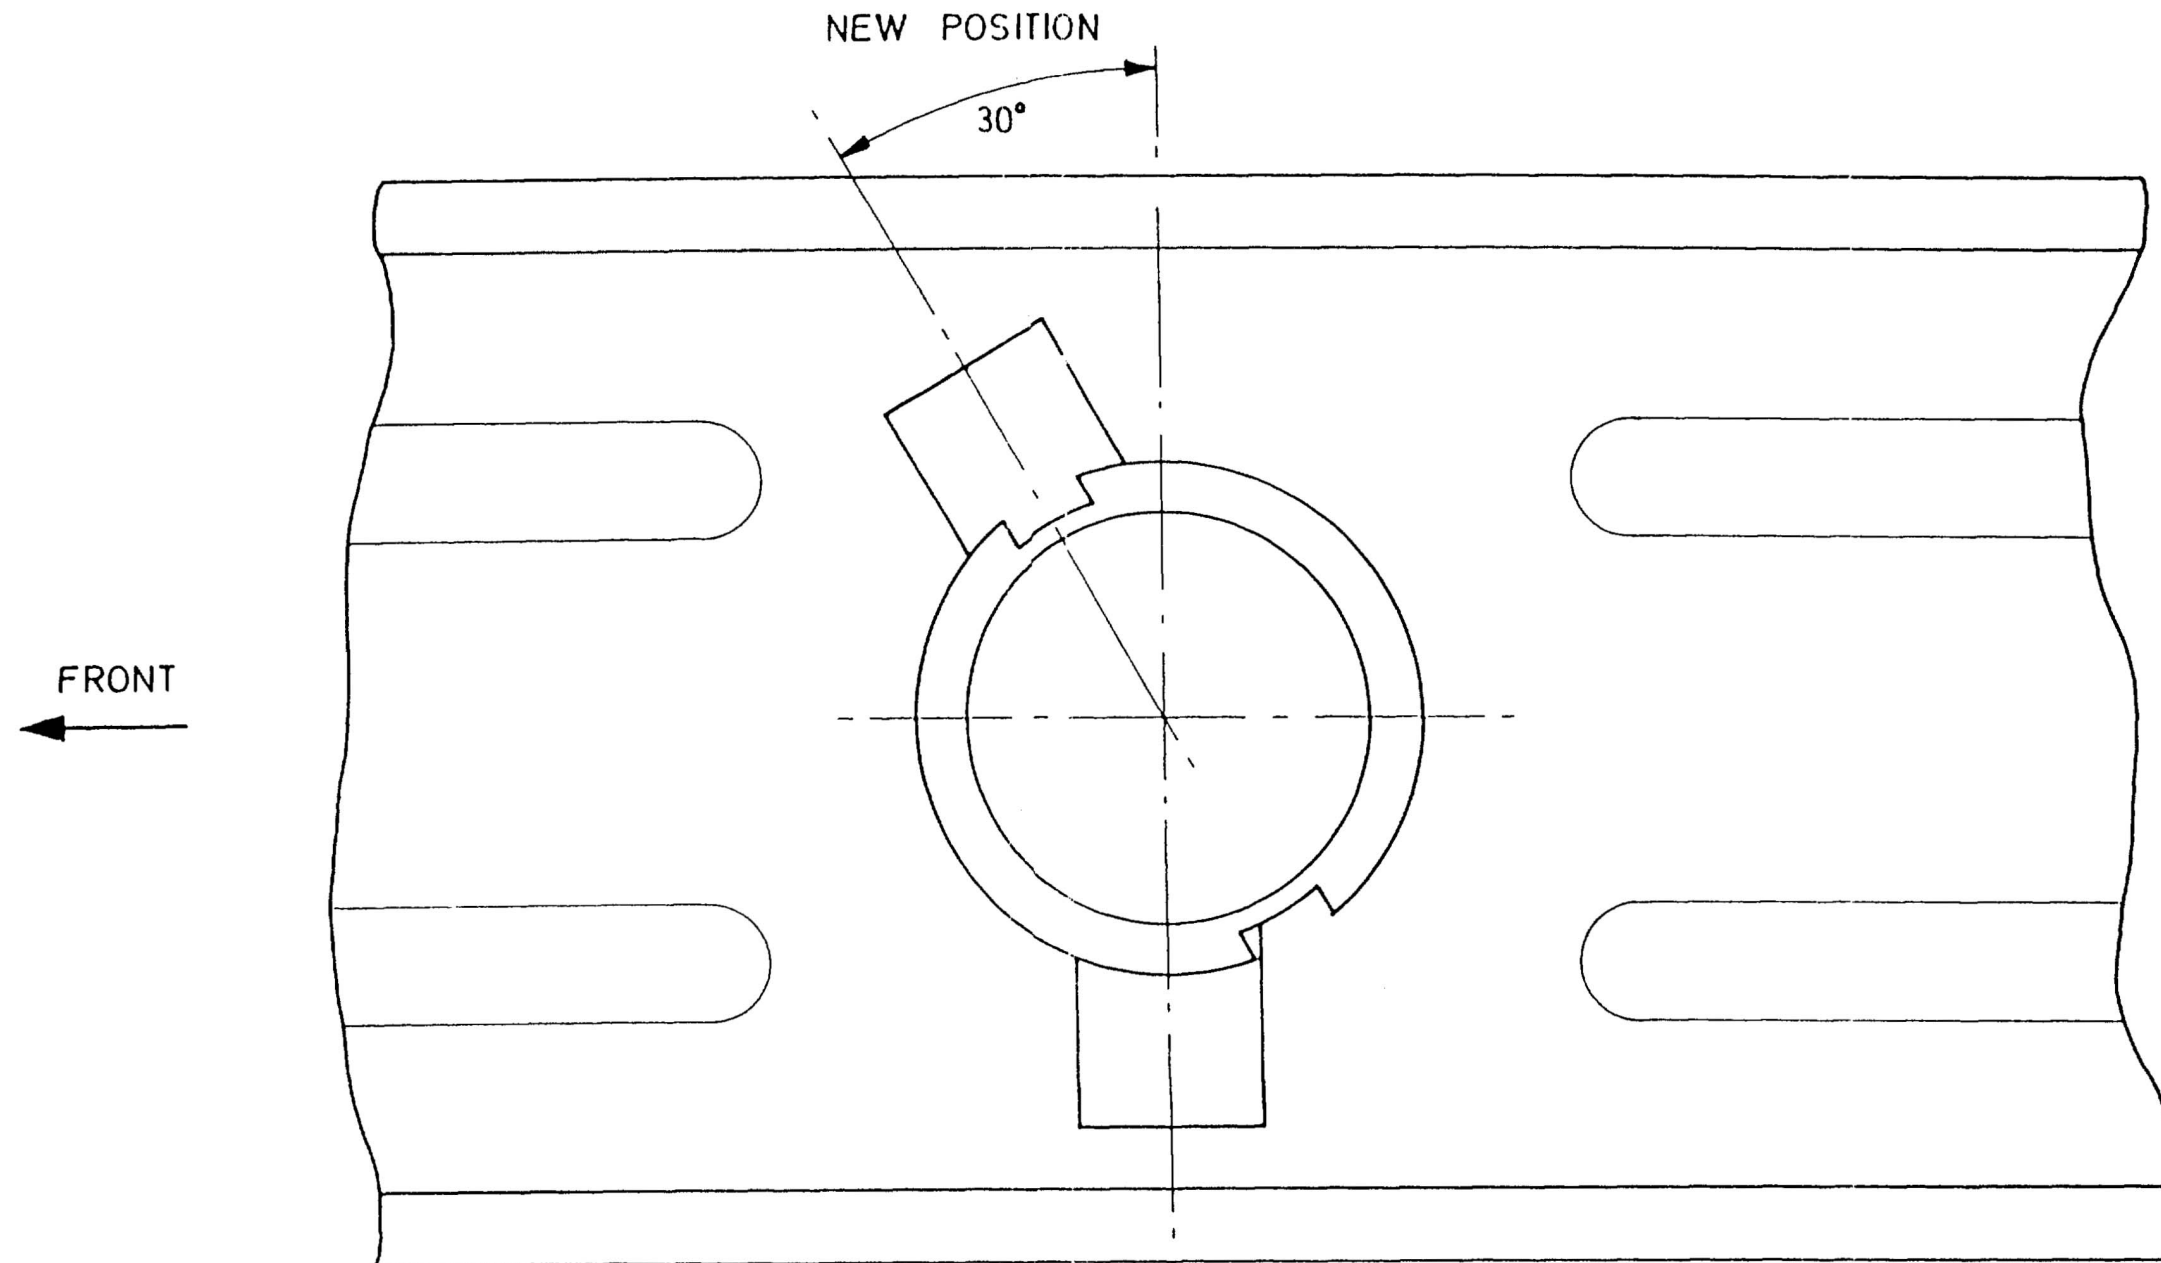

Fig 1
9.1 Units are to modify the existing rocker cover using a suitable length of pipe (item 4) as shown in Fig 1 and blank off the existing pipe.
9.3 Units are to fit items 1 to 3 (Fig 1) as shown and blank off the existing side cover breather.